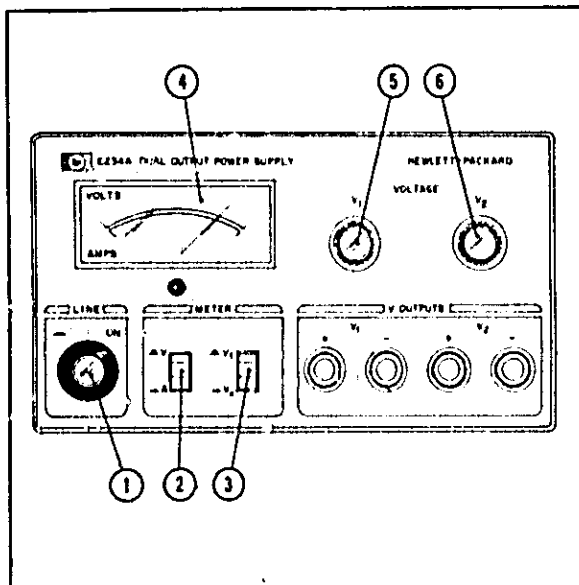

Figure 3-1. Controls and Indicators
3-5 The LINE pushbutton switch (item ①, Figure 3-1) is pushed-in to turn the supply ON and released (out position) to turn the supply OFF. A simulated (non-electrical) ON indicator (within the pushbutton) "lights" when the button is pushed-in whether or not power is applied to the unit.
3-11 The following steps describe the use of the Model 6234A front panel controls and indicators illustrated in Figure 3-1 and serve as a brief check that the supply is operational. Follow this checkout procedure or the more detailed performance test of paragraph 5-6 when the instrument is received and before it is connected to any load equipment. Proceed to the more detailed performance test beginning in paragraph 5-15 if any difficulties are encountered.